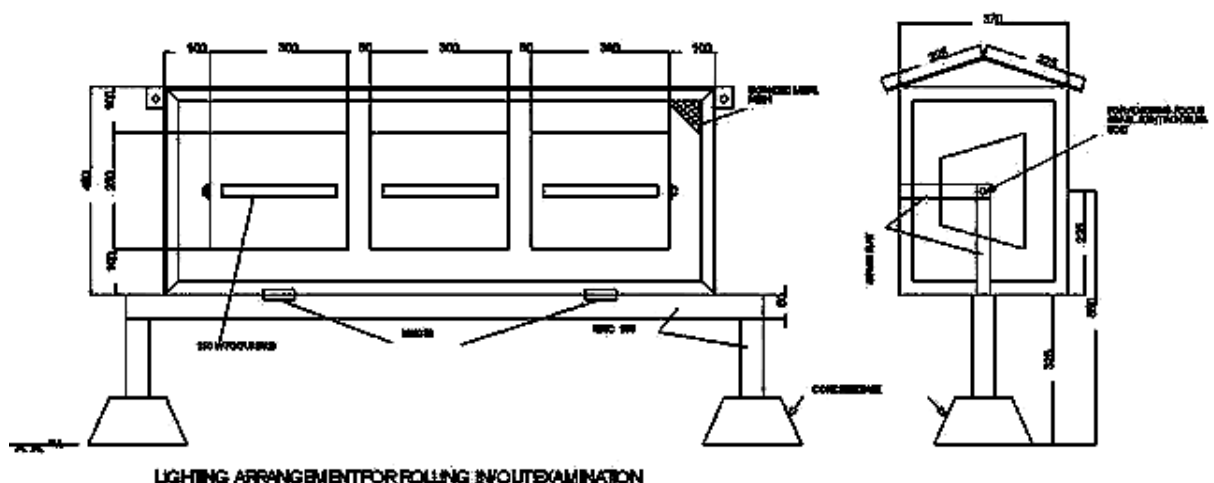

Figure: 2.6 Lighting Arrangement for Rolling in/out Examination
- i) All trains must be examined by the mechanical train examining staff before dispatch to ensure that all coaches on the train are in fit condition and without rejectable defects. On formation of a rake and after its placement for examination, washing, cleaning and watering, the Station Master (SM) shall pass necessary memo to the Engineer (C&W). After carrying out all necessary work, the Engineer (C&W) shall communicate fitness of the train to Station Master. Normally, Railways have standard forms for the use of Station Masters and Engineers for this purpose. Railways, where such forms are not used, should also start using these forms as uniform practice for the guidance of both Engineer (C&W) and Station Master. The Station Master shall not dispatch the train unless the fitness certificate, in the prescribed form, is received from the Engineer (C&W).
- ii) For rolling in examination of train it has to be ensured that proper lighting arrangement is provided on both the sides of the track at nominated spots for examination of under gear parts during night. Focusing of lights shall be done by keeping a coach on the line and adjusting the angle of light to illuminate under gear and bogie. Use of fixed lights as indicated in figure 2.6 is preferable.